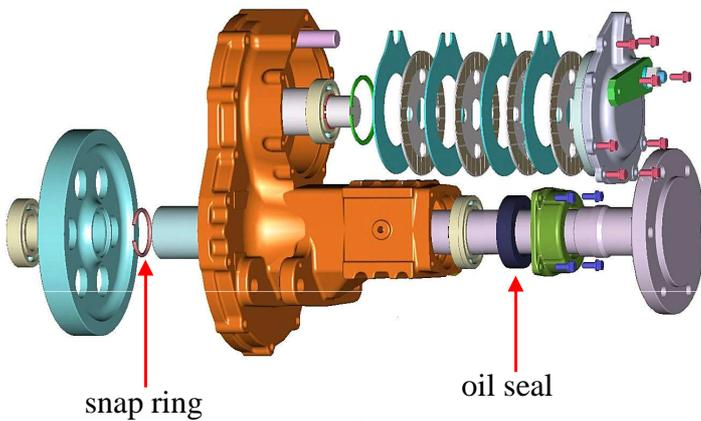

Fig.7-5
- 7) Remove the snap ring of wheel pinion (Fig.7-5) And individually separate the friction plates, actuator and separator plates from each other.